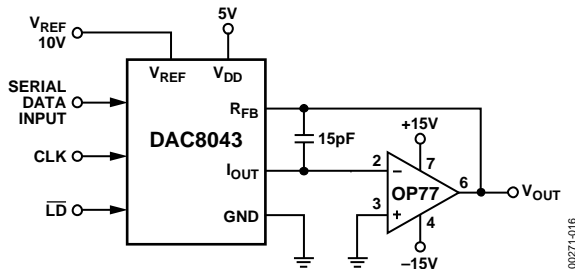
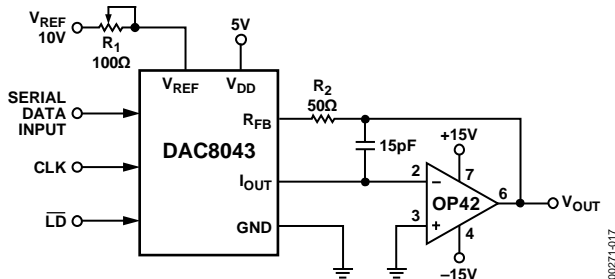
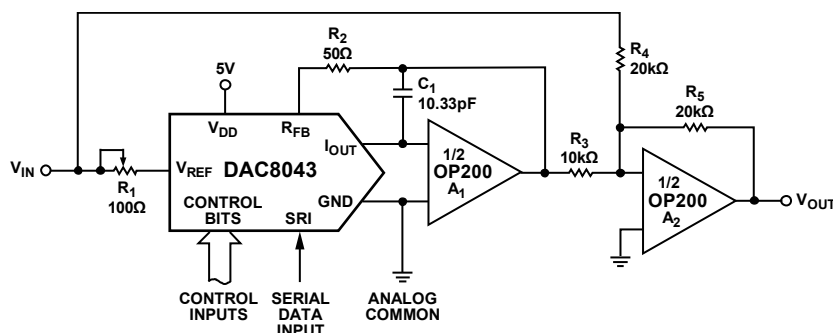

Figure 16. Unipolar Operation with High Accuracy Op Amp (2-Quadrant)
Figure 17. Unipolar Operation with Fast Op Amp and Gain Error Trimming (2-Quadrant)
Figure 19. Bipolar Operation (4-Quadrant, Offset Binary)
1. Phase compensation (see Figure 16 and Figure 17).
In most applications, linearity depends upon the potential of the  $I_{OUT}$  and GND pins being equal to each other. In most applications, the DAC is connected to an external op amp with its noninverting input tied to ground (see Figure 16 and Figure 17). The amplifier selected should have a low input bias current and low drift over temperature. The amplifier's input offset voltage should be nulled to less than 200  $\mu$ V (less than 10% of 1 LSB).
The circuits shown in Figure 16 and Figure 17 may be used with an ac or dc reference voltage. The output of the circuit ranges between 0 V and approximately  $-V_{REF}$  (4095/4096), depending upon the digital input code. The relationship between the digital input and the analog output is shown in Table 6. The limiting parameters for the  $V_{REF}$  range are the maximum input voltage range of the op amp or  $\pm 25$  V, whichever is lowest.
Gain error may be trimmed by adjusting  $R_1$ , as shown in Figure 17. The DAC register must first be loaded with all 1s.  $R_1$  may then be adjusted until  $V_{OUT} = -V_{REF}$  (4095/4096). In the case of an adjustable  $V_{REF}$ ,  $R_1$  and  $R_2$  may be omitted, with  $V_{REF}$  adjusted to yield the desired full-scale output.
1 Nominal full scale for Figure 16 and Figure 17 circuits is given by
2 Nominal LSB magnitude for Figure 16 and Figure 17 circuits is given by
Figure 19 details a suggested circuit for bipolar, or offset binary, operation. Table 7 shows the digital input to analog output relationship. The circuit uses offset binary coding. Twos complement code can be converted to offset binary by software inversion of the MSB or by the addition of an external inverter to the MSB input.
1 Nominal full scale for Figure 19 circuits is given by
2 Nominal LSB magnitude for Figure 19 circuits is given by
The transfer function for the DAC8043 connected in the multiplying mode, as shown in Figure 16, Figure 17, and Figure 19, is